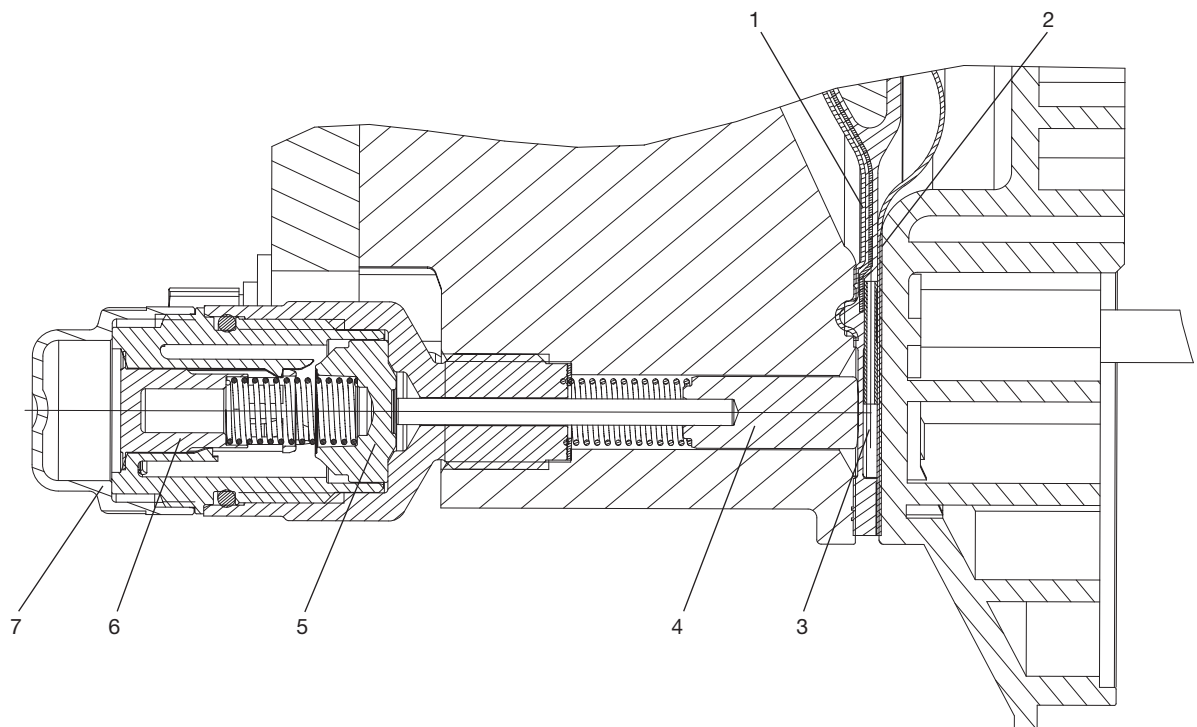

Fig. 1: Section through the diaphragm rupture signalling Sigma (without electrical component parts)
* Figure 1 and 2=back pressure [bar]; figure 3, 4, 5=flow rate [l/h]